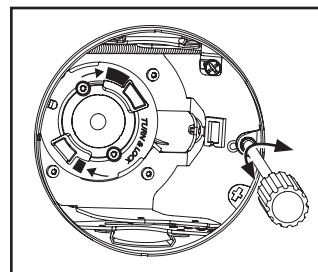

Figure 17.
1. Loosen the rotation lock down screw using a Phillips No. 2 screwdriver (Figure 17.).
3. Tighten the rotation lock-down screw to secure the desired position. (Do not over-torque). (Figure 17.).
2. Tighten the rotation lock down screw (Figure 17).